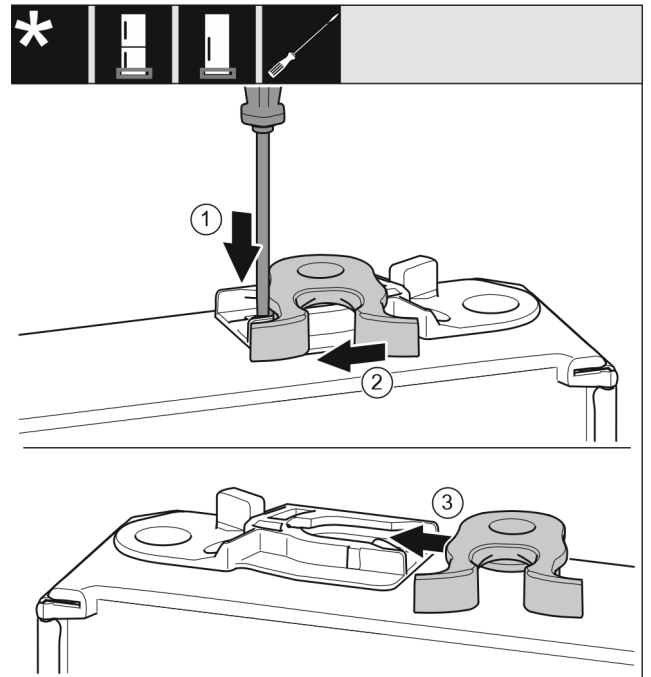

Fig. 51 \*
- ▶ Use a slotted screwdriver to push the tab Fig. 51 (1) downwards.\*
- ▶ Pull the closing hook Fig. 51 (2) out of the guide.\*
- ▶ Insert the closing hook Fig. 51 (3) into the guide on the other side.\*